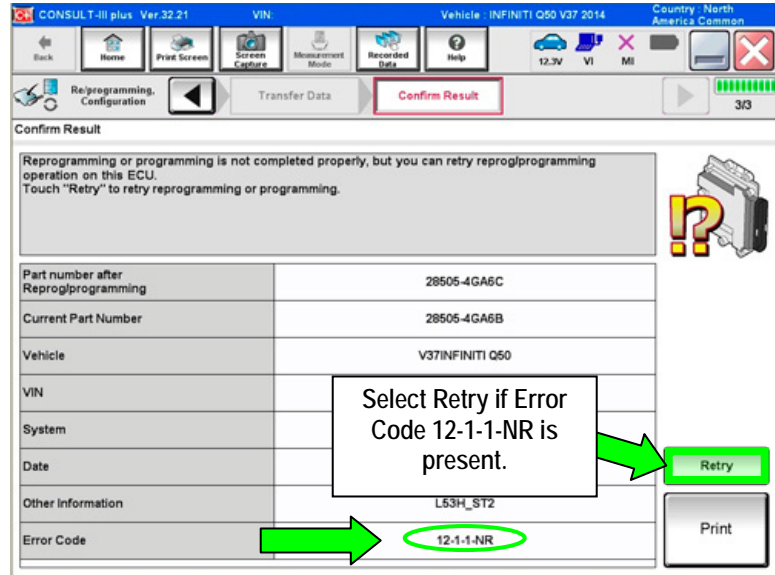

Figure 16
- If the progress bar freezes at 90% of a complete transfer to the plus VI and error code "12-1-1NR" is displayed as shown in Figure 16 on the next page, **turn the ignition OFF, then ON**, and then refer to Control Module Recovery on the next page.
If reprogramming does not complete and the “!?” icon displays as shown in Figure 16: